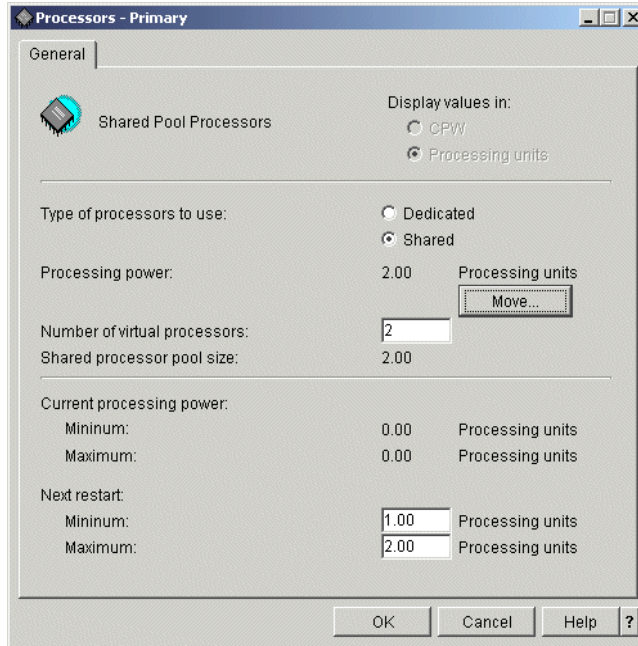

Figure 4-3 Processor properties for the primary partition changed to Shared
8. Change the type of processors to use by selecting the **Shared** radio button as shown in Figure 4-3. We are planning for both processors to be shared. As you can see in Figure 4-3, this action changes the Processors - Primary window layout. We now have all the sharing options for processors. Leave all the values at their default and click **OK**.